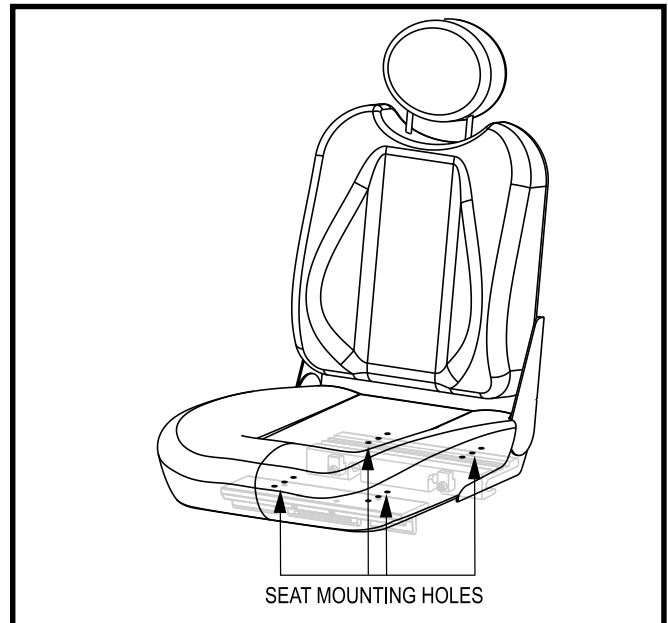

Figure 12. Seat Mounting Holes
4. Reposition the extrusions on a different set of mounting holes. You must move both extrusions the same number of holes either forward or backward. See figure 12.